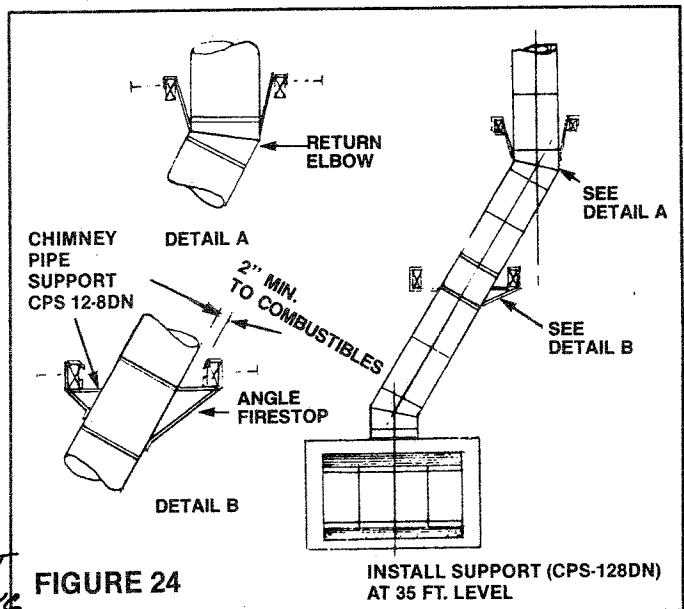

FIGURE 24
2. Chimney weight above offset rests on return elbow. Straps must be securely nailed to rafters or joists. (See Figures 24 & 25).